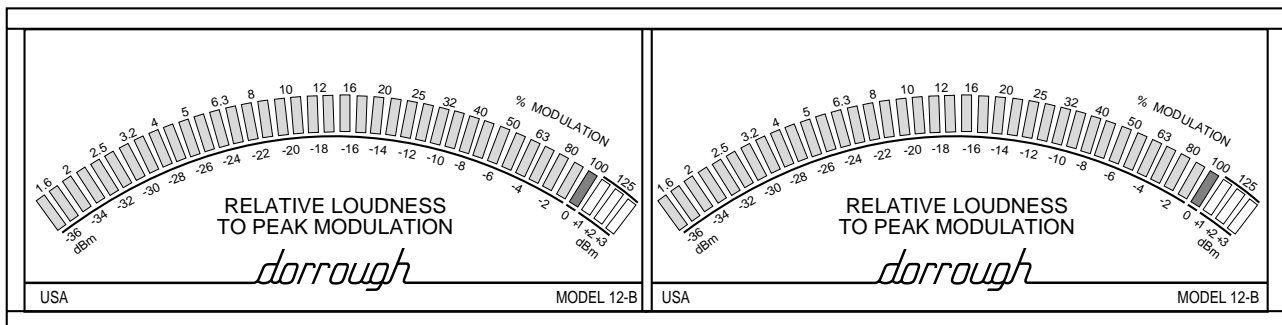

Fig. 4. Example showing Left and Rights meter indicating 0 dB.
- Verify that the left LED meter indicates 0 dBm, as shown in Fig. 4.